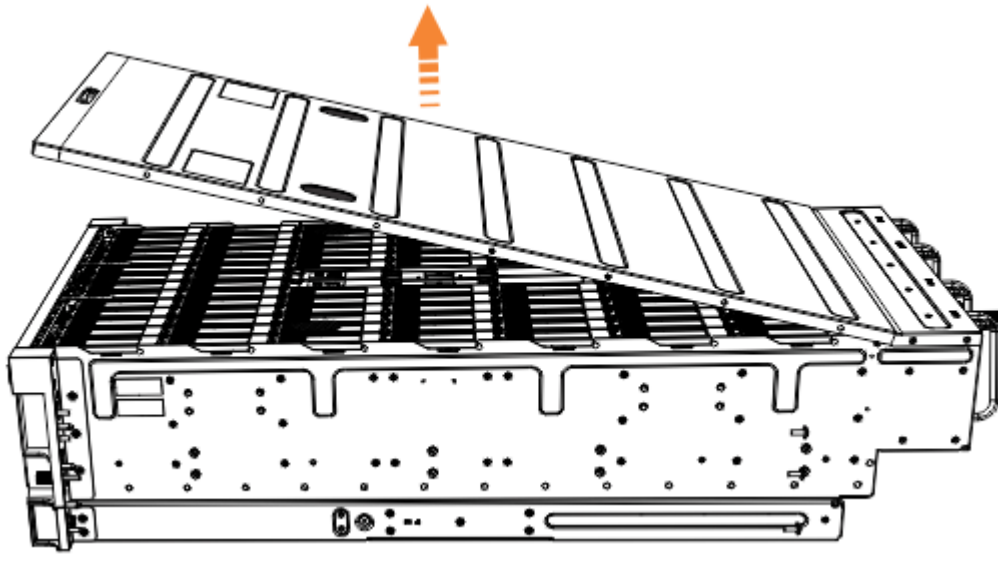

Figure 31. Removing the 2077-92F cover
3. Carefully lift the cover up, as shown in Figure 31 on page 43.